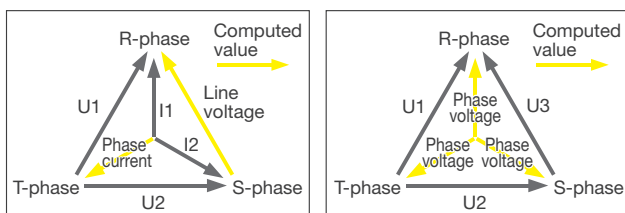

Figure 1 Line voltage/phase current
- Line voltages and phase currents that are not measured are computed in the three-phase three-wire system (Figure 1).